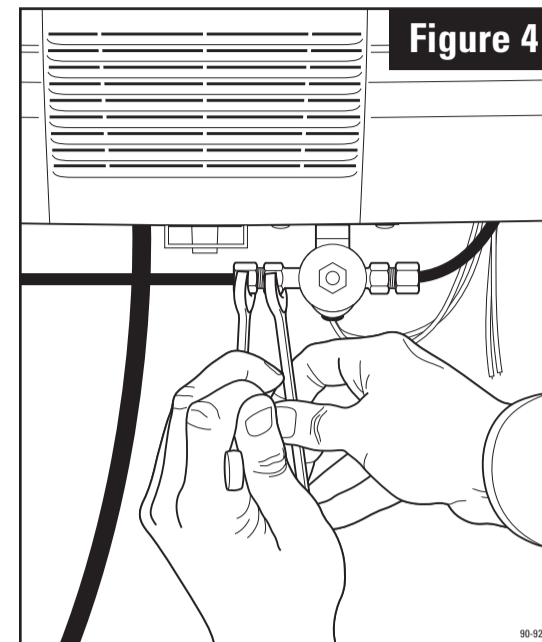

Figure 4
**DOUBLE WRENCH TO PREVENT LEAKING! (See Figure 4)**